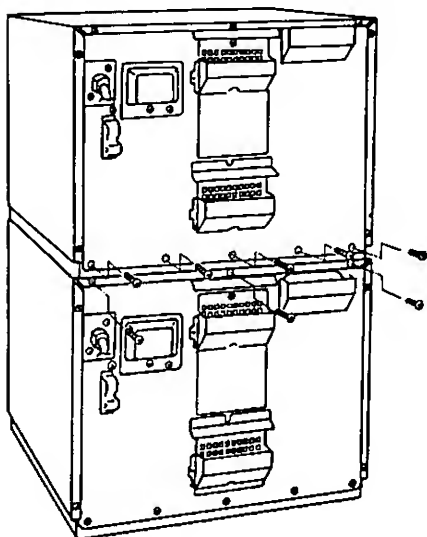

Fig. 1.
1. Stack the units and remove the screws from individual unit as shown in Fig. 1.